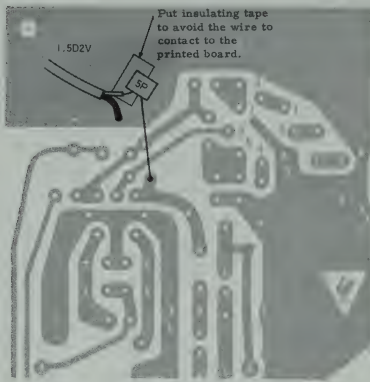

Figure 14
- (1) Locate the IF printed board, PB-1251, and solder the 5 PF capacitor and coax cable as illustrated in Fig 14
- (2) Install the coax cable as illustrated and solder the other end of the coax cable to AUX connector on rear panel.
- (3) Solder the 100K ohm 1/4W resistor between the inner and outer conductors of the coax cable at the AUX connector.
- (4) Peak T119 after the above modification.